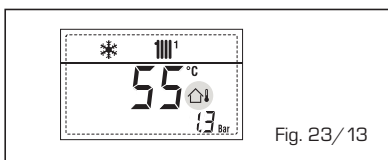

Fig. 23/13
- **SAFETY THERMOSTAT INTERVENTION FIRST MIXED ZONE "ALL 20" (fig. 23/14)**